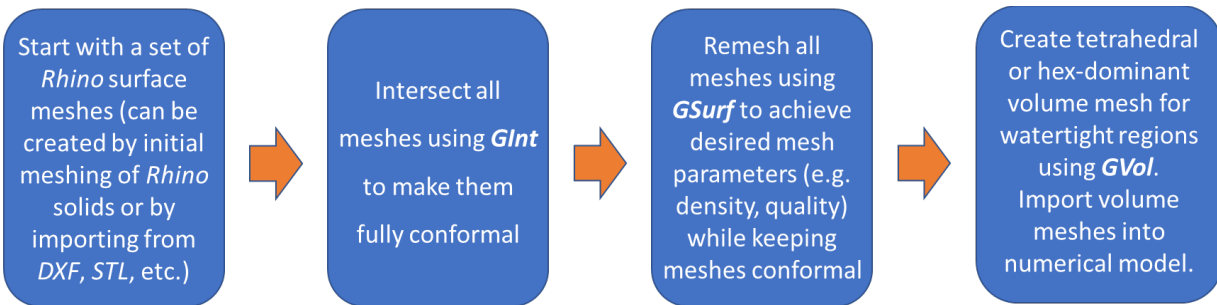

Figure 16: Typical workflow for unstructured meshing using *Griddle* tools.
All three functions operate directly on *Rhino* surface meshes. The meshing workflow to generate an unstructured volume mesh is summarized in Figure 16.
**Glnt** can operate on multiple surface meshes at once to make the meshes themselves as well as intersections and contacts between them fully conformal. Use of **Glnt** before continuing with meshing is typically needed as Griddle meshing tools **GSurf** and **GVol** require conformal surface meshes at input (see the workflow in Figure 16).